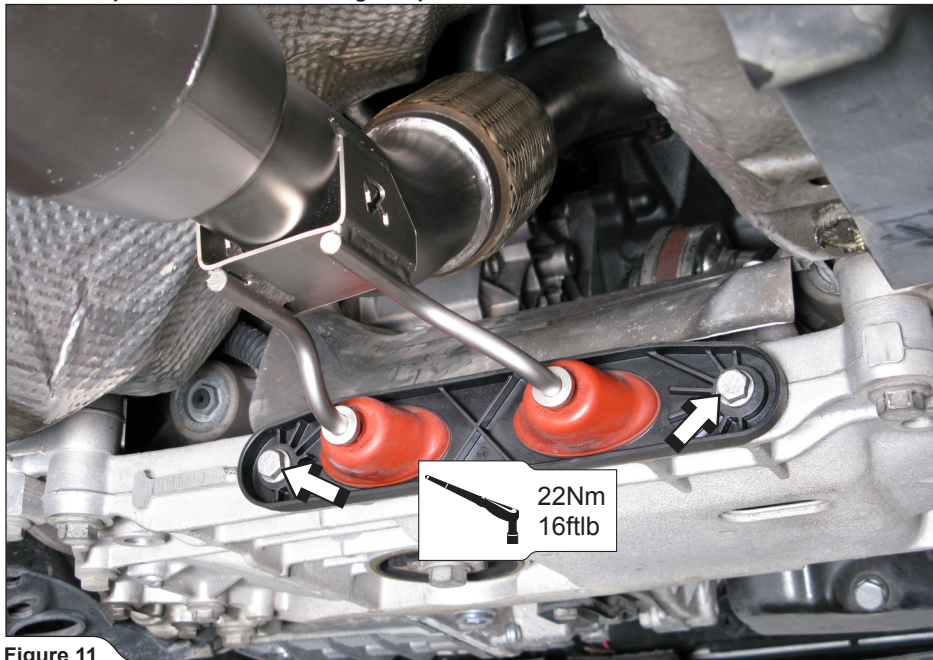

Figure 11
- Assemble the Akrapovič Down Pipe in the reverse order from the order in which the original was removed. Tighten the front lambda sensor (Figure 11, 12, 13).